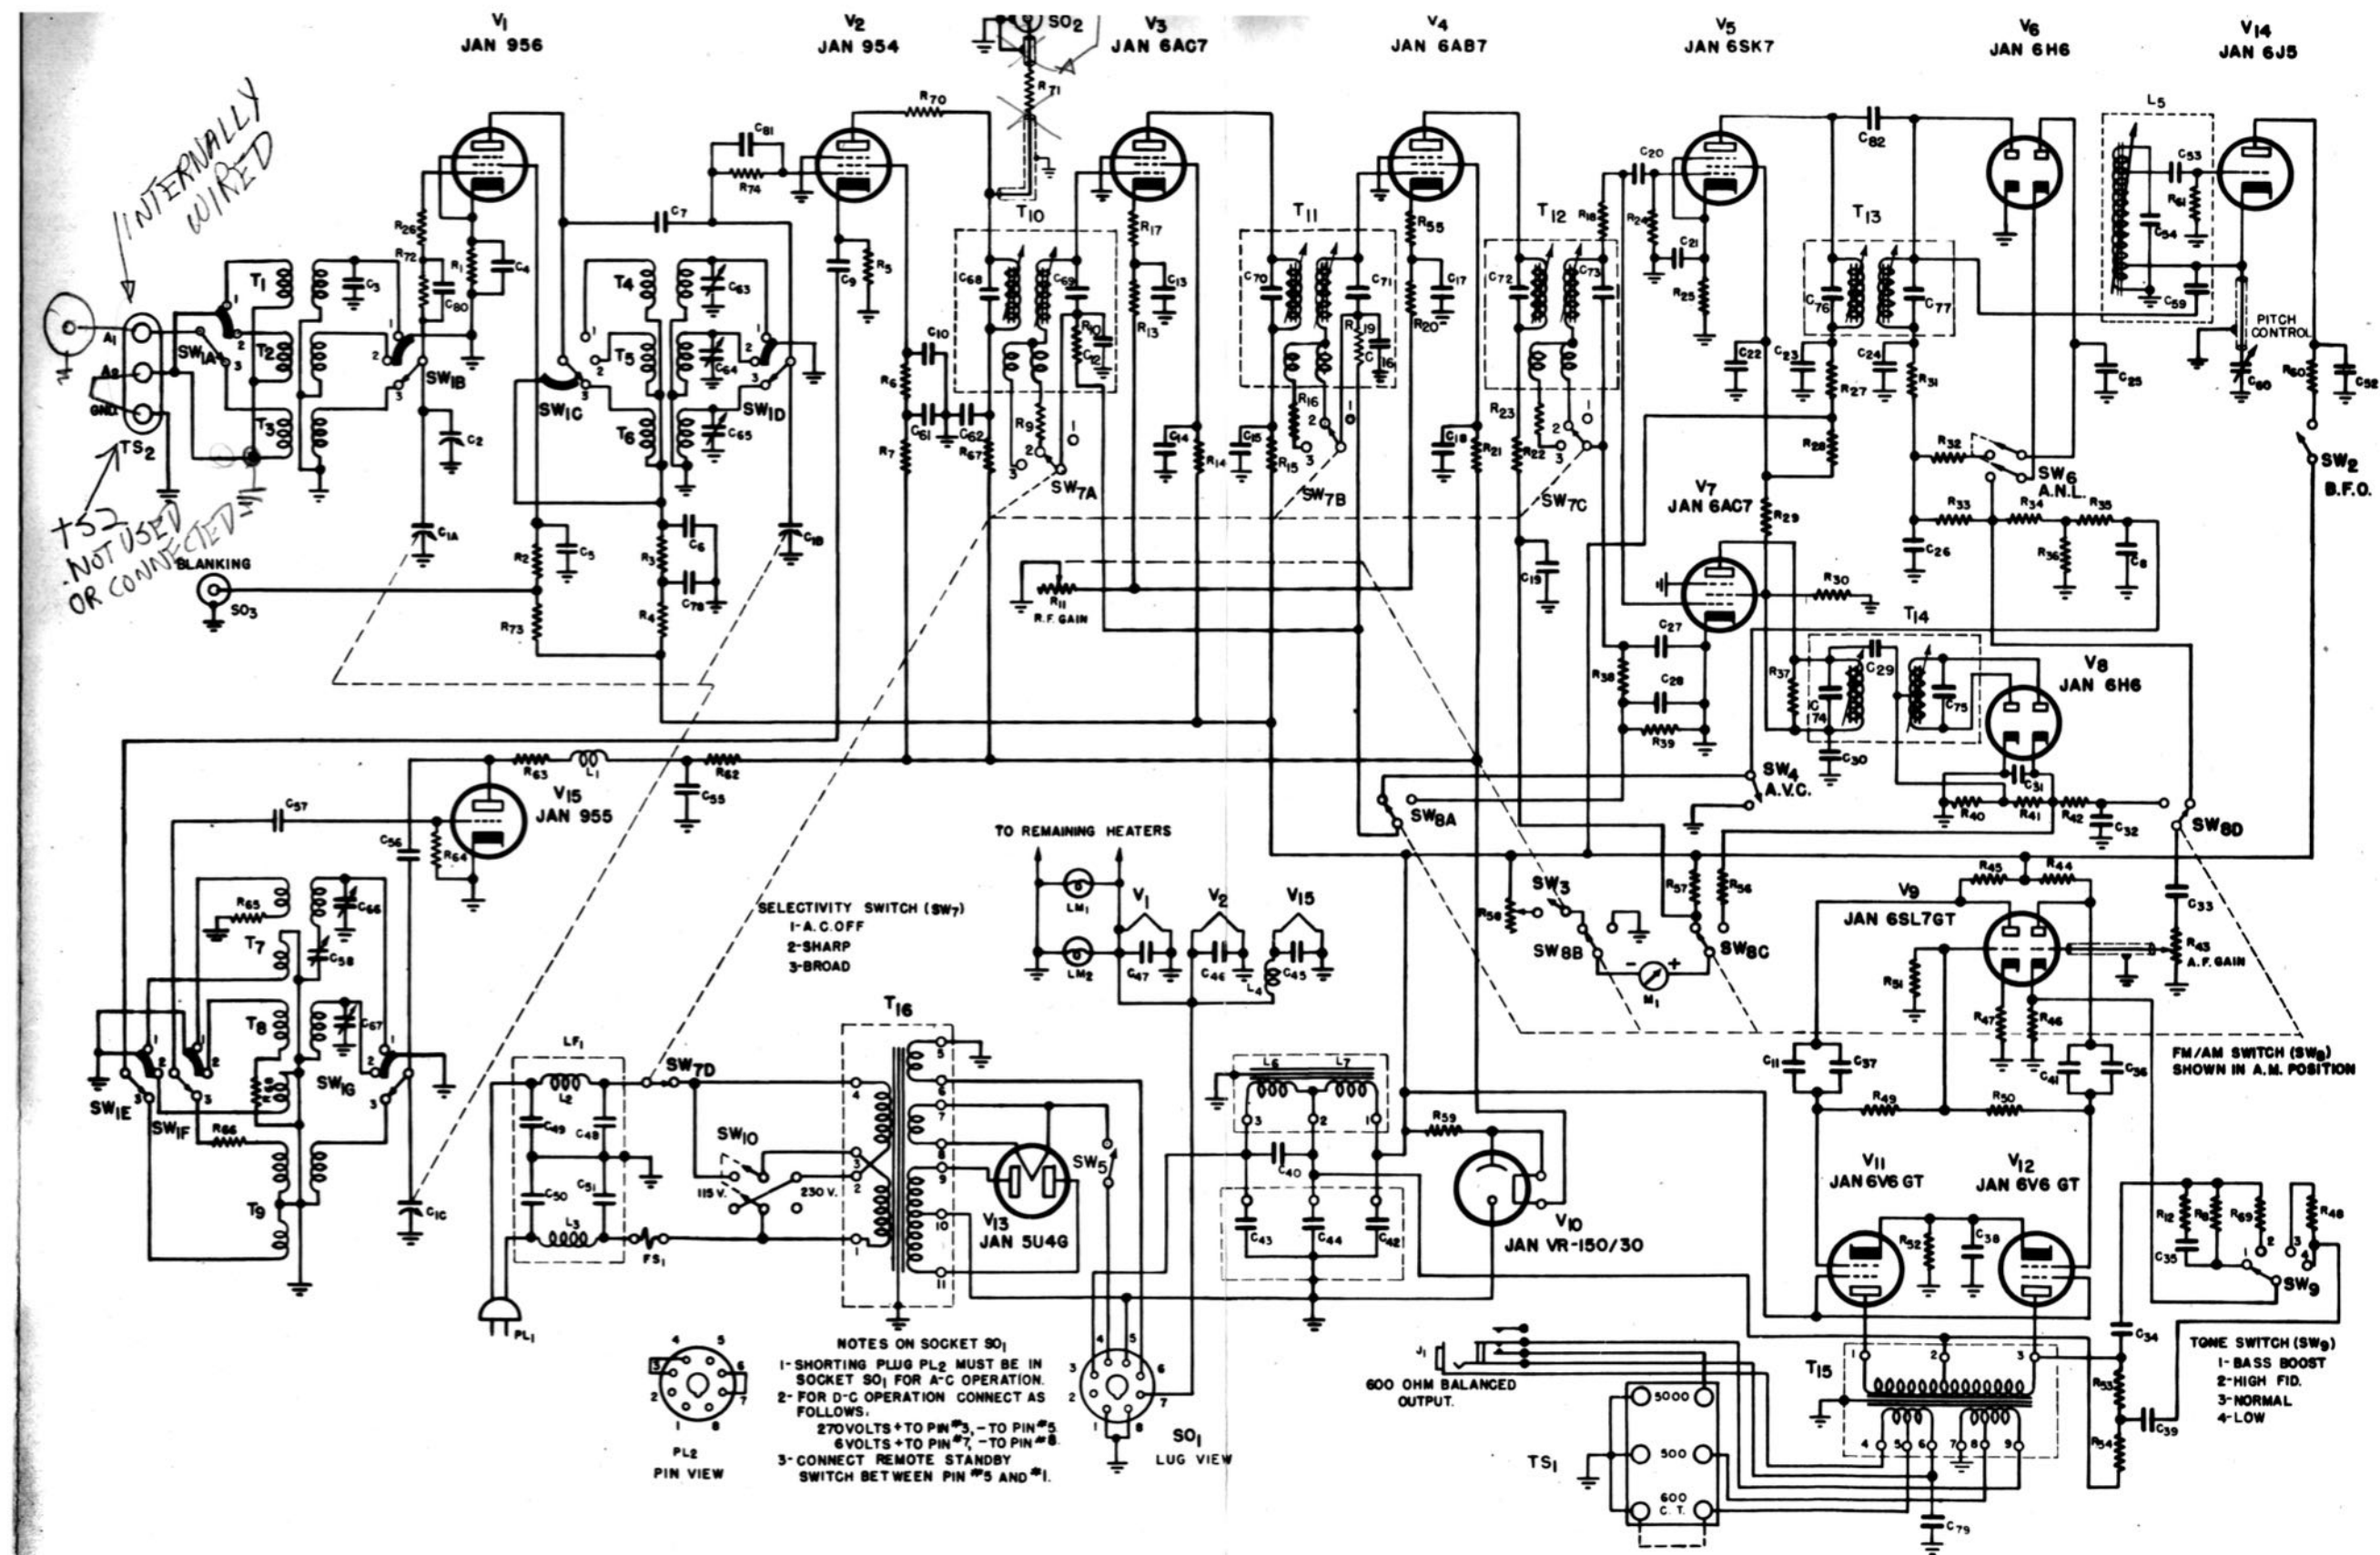

Figure 3. Radio Receiver CHL-46130-D, Schematic Diagram
**A-2. RECEIVER UNIT.-** Radio Receiver CHL-46130-D is a ultra-high frequency super-hetrodyne radio receiver capable of receiving both amplitude modulated (A-M) and frequency modulated (F-M) phone signals and continuous wave (C-W) telegraph signals. Automatic volume control (A-V-C) and automatic noise limiter (A-N-L) circuits are incorporated. See figure 3 for the schematic circuit diagram.
**A-3. CIRCUIT DESCRIPTION.-** Refer to the schematic diagram, figure 3. Since the circuit functions of bands 1, 2 and 3 are essentially identical this discussion will describe the circuit with the BAND SWITCH (SW1A to SW1G) set at band 3, as shown in the schematic diagram. The BAND SWITCH (SW1) selects the proper radio frequency, converter, and high frequency oscillator transformers to tune a given frequency range.
a. **A-C Operation.**- If the receiver is to be operated from an a-c line, check the setting of the 115/230-volt change-over switch ( $SW_{10}$ ), located on the chassis deck to the left of the power transformer, and see that it is set for the proper line voltage. Also see that the plug ( $PL_2$ ) on the rear apron of the receiver is in place. This is necessary to provide continuity in the power circuits. Refer to figure 3.